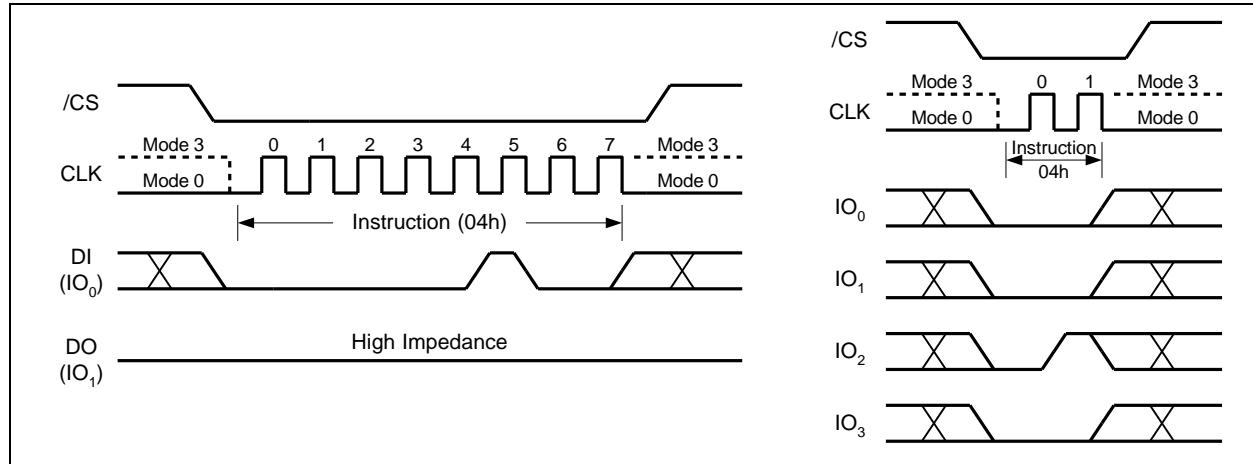

Figure 7. Write Disable Instruction for SPI Mode (left) or QPI Mode (right)
The Write Disable instruction (Figure 7) resets the Write Enable Latch (WEL) bit in the Status Register to a 0. The Write Disable instruction is entered by driving /CS low, shifting the instruction code “04h” into the Data Input (DI) pin on the rising edge of CLK, and then driving /CS high.